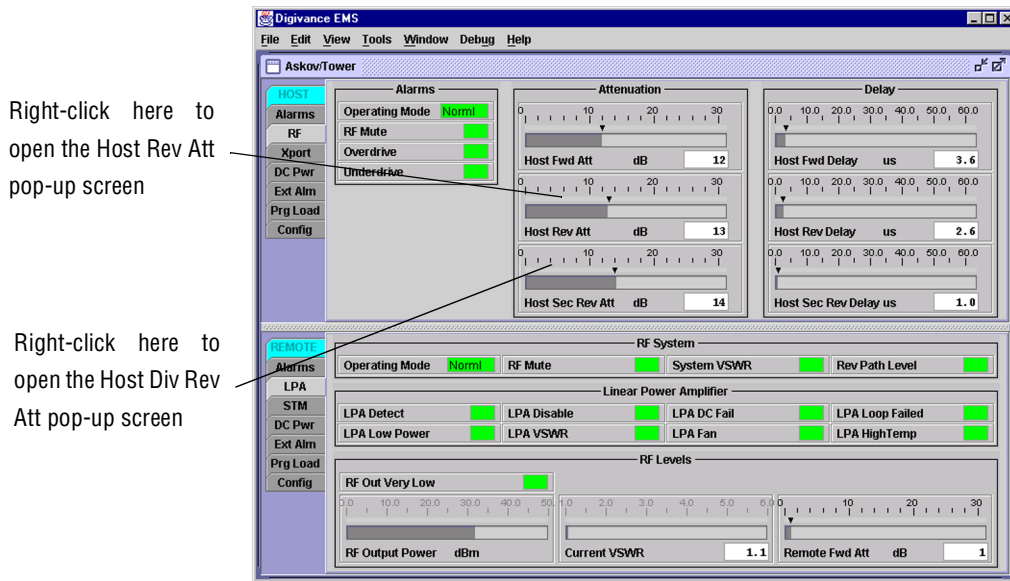
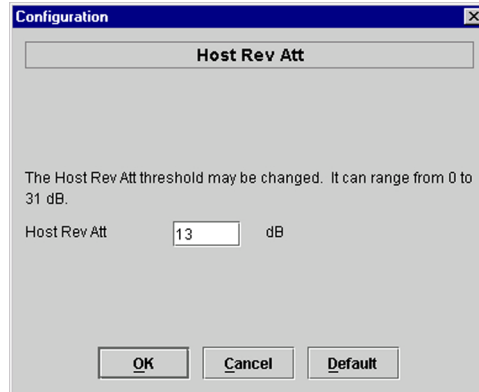

Figure 4-12. HOST RF Display
Figure 4-13. Host Rev Att Pop-Up Screen
4. Click on the HOST **RF** tab. The HOST **RF** display will open within the DEMS main window as shown in Figure 4-12.
- Right-click on the **Host Rev Att** section of the display (see Figure 4-12). The **Host Rev Att** pop-up screen will open as shown in Figure 4-13.